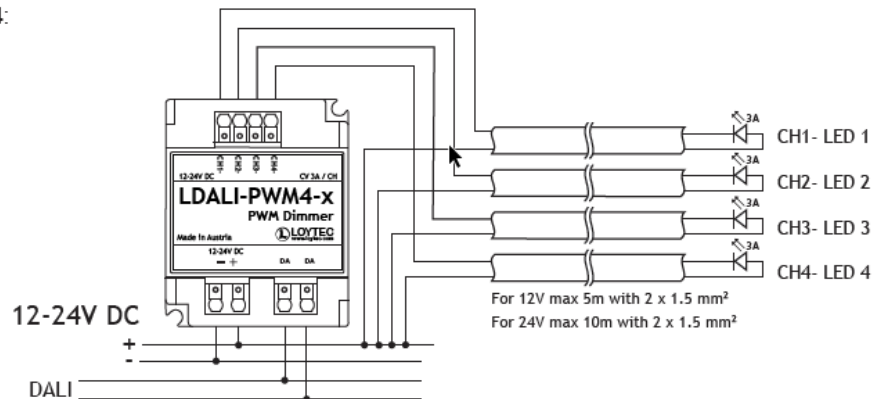
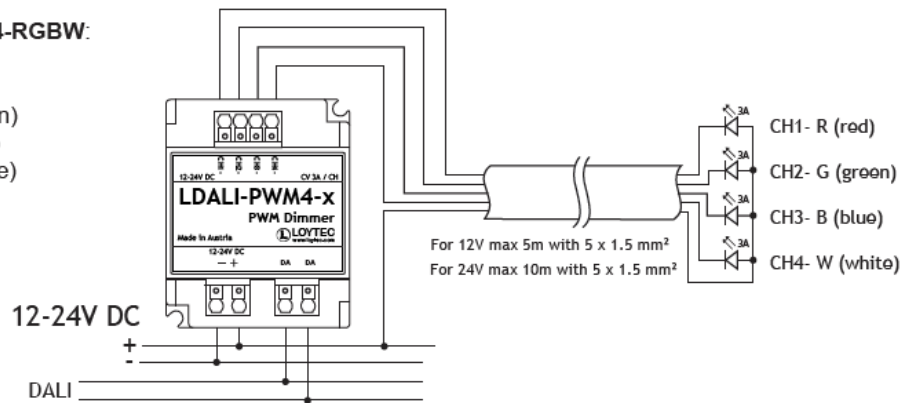

Figure 19: LDALI-PWM4 wiring
Figure 21: LDALI-PWM4-RGBW wiring
- Follow the wiring diagrams and cable cross sections in Figure 19 to Figure 21. Do not use single conductors for connecting LED-strips.